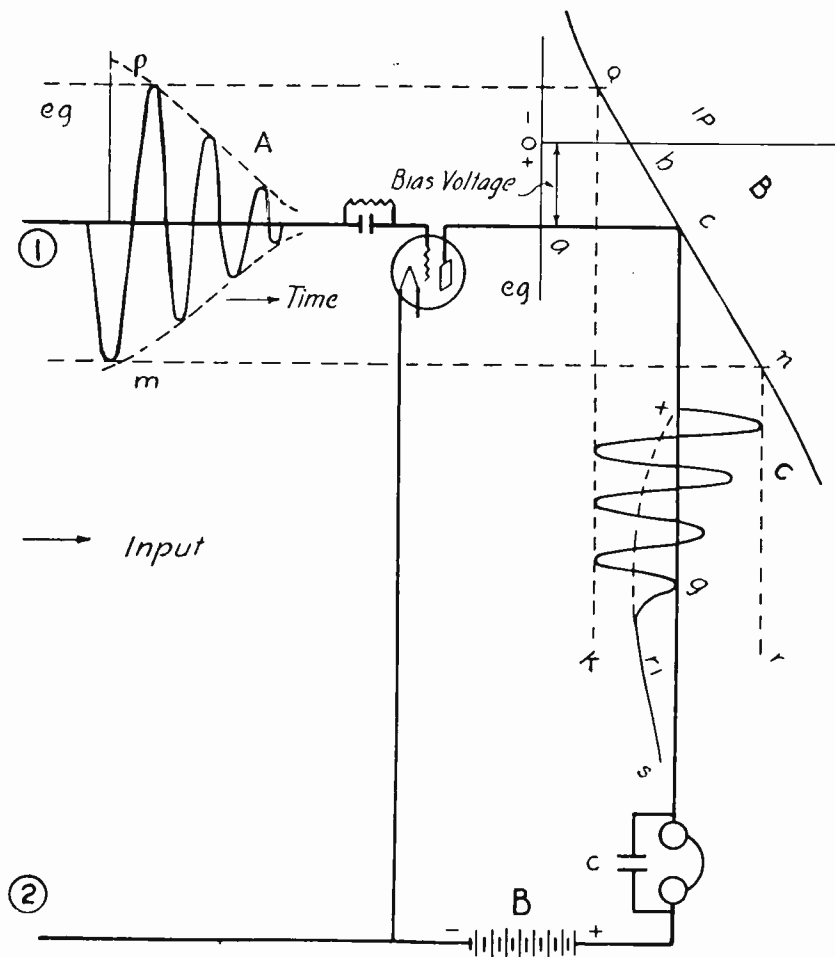
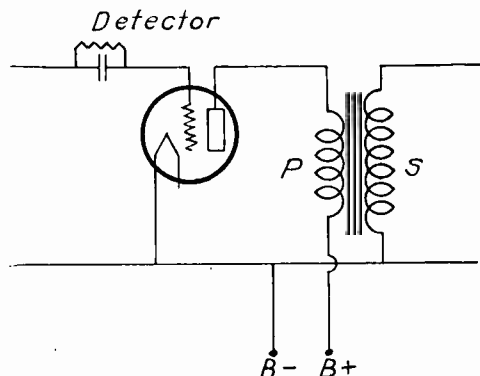

Fig. 1—This Diagram Shows in a Schematic Way How Rectification is Accomplished by Means of the Vacuum Tube.
Fig. 9—Connections from Detector to First A. F. Transformer.
In Figure 1 we have drawn in very heavy lines, the wiring diagram of an electron tube used as a detector of radio-frequency oscillations. The input is on the left of the diagram, and the head-phones are connected in the output circuit, which is on the right of the diagram. These head-phones are shunted by a by-pass condenser.
Now, let us go back to Figure 1 and see how the detector tube demodulates this complicated Radio wave. You will notice that the wiring diagram has been drawn in heavy lines, but that we have also drawn some light lines in the illustration. For instance, at A in Figure 1, we have drawn a modulated radio-frequency wave. The height of the curve at any point indicates the strength of the voltage at that instant. This is supposed to be the radio-frequency voltage impressed on the input of the tube, and comes from the tuned circuit connected to it between (1) and (2).
Now, suppose we have an alternating signal voltage on the grid. What happens? Well, as you learned before in a previous lesson, the current in the plate circuit fluctuates just as the grid voltage fluctuates. When the grid voltage is positive, the plate current increases; when it is negative, the plate current decreases. This is shown by drawing a few broken lines which we may call *projection* lines. Starting at m (Figure 1), we draw a broken line which cuts the characteristic curve at n. Then going at right angles we draw the line nr. We do the same thing starting at p, going through q and ending at k. You would think from this that the wave of the plate current would be included between the two lines qk and nr, but it is not. Let us see why.
At any rate, the negative charge on the grid becomes greater and greater. As a result, as you have already learned in a previous lesson, the plate current becomes less and less. All the while it is decreasing, the oscillations are still going on. The outcome of the whole matter is that the wave of the plate current takes a form like that in the curve C of Figure 1. As the oscillations continue, they gradually drop down as the grid accumulates its charge of electrons, until finally, if the oscillations persist long enough, the peak of the last oscillation in that particular group drops down to the value of the steady plate current. This is the point g in the curve C of Figure 1.
Now you must understand that the grid cannot go on forever collecting electrons and thereby having its negative charge increase continuously. There comes a time when the voltage of this grid charge becomes great enough for the charge to *leak off the grid* through the grid leak resistance. When this happens the grid loses its high negative voltage and the plate current at the same time rises again to its normal original steady value. This action is represented by the section ri, s, of curve C, of Figure 1.
ceivers responds to the low (or audio) frequency part of the train of oscillations; the phones act as if a current is flowing through them, whose wave shape is represented by the curve x, r, i, s, which is a sort of average curve for the wave-train C in Figure 1. This average wave corresponds to the *envelope* of the radio-frequency wave originally impressed on the grid, which envelope contains the audio-frequency (or sound) waves which we want to hear. The final wave is not exactly the same as the original wave; the detector introduces a certain amount of *distortion* in the signals, which is what we call a change of wave form. As a result, the sounds coming out of the loud-speaker will not be *exactly* the same as the sounds that went into the microphone, but this distortion is not very noticeable in well-designed receivers.
Now we have learned how the detector acts, and have seen why we must not overload it. We now come to the matter of amplifying the audio-frequency currents so that they can operate a loud-speaker satisfactorily. We shall develop the audio amplifier step by step, so that you shall learn the reason for each thing in the circuits. A few pages before this you learned that the impedance of the telephone receivers in the plate circuit of the detector is acted upon by a sort of average curve of the plate current. (See Figure 1, curve x, ri, s). So it is clear we must have some kind of apparatus which has impedance, connected in the plate circuit of the detector.
Furthermore, the primary of the transformer has the impedance we require in the plate circuit of the detector. We simply connect the audio transformer in place of the headphones in Figure 1, and we get the circuit of Figure 9, where the primary is marked P and the secondary is marked S.